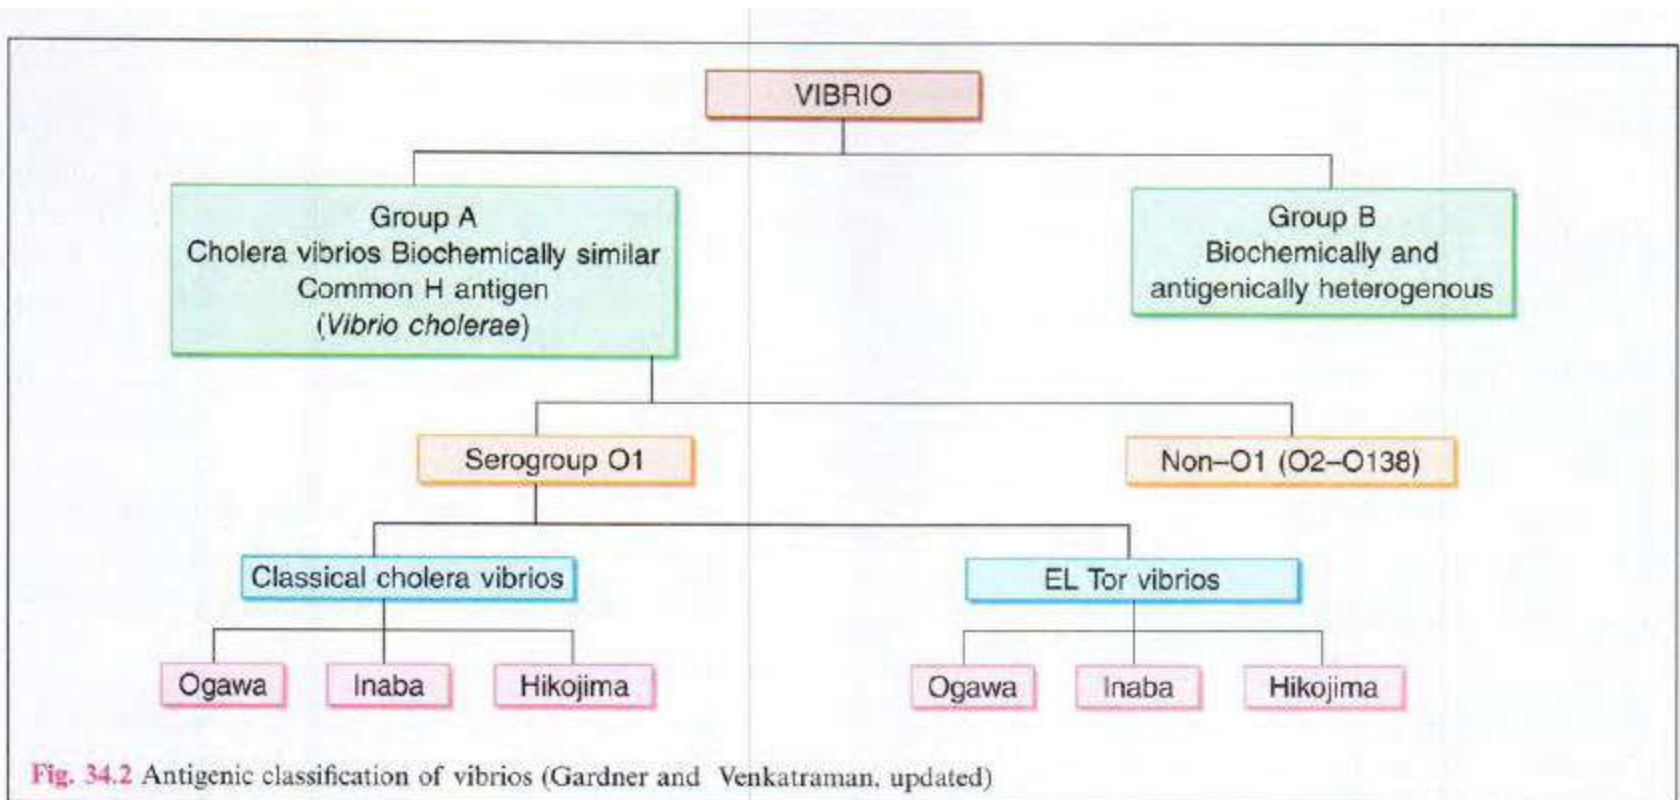

Fig. 34.2 Antigenic classification of vibrios (Gardner and Venkatraman, updated)
- The 'H' antigen is shared by all the strains. *Gardner and Venkatraman (1935)* classified vibrios based on antigenic structure (Fig. 34.2).